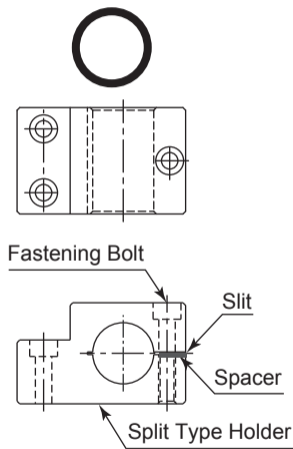
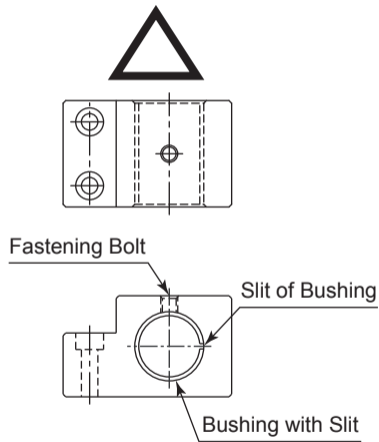

Fig. 31
Fig. 32
- ② When installing a motor spindle to the holder, recommended installation method is shown Fig 31. Refer to " ③ How to fabricate the Split Type Holder ". If this is not possible, install as shown in Fig. 32 using the Controllers X10mA function to avoid crushing the motor spindle.